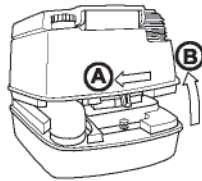

Figure B54 (A-B) Removing Fresh Water Tank
3. Remove fresh water tank from waste holding tank (Figure B54-A & B).